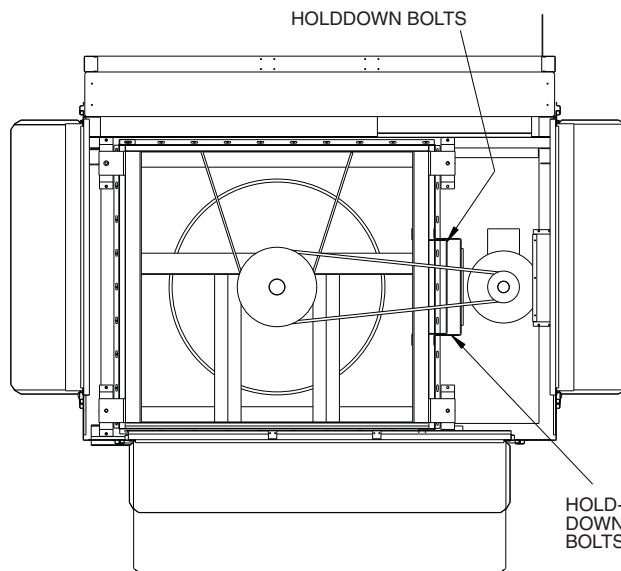

Fig. 48 — Return Fan Motor Plate Adjustment
1. Loosen holddown bolts. (See Fig. 48).